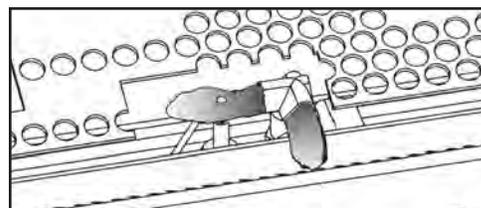

Figure 8: Pilot Flame.
Periodically do a visual check of the pilot flames. One flame should encompass the ignitor and thermocouple and the other should burn over the burner ports (see Figure 8). Also check that the burner is operating correctly, refer to Figure 77.
12. Light the pilot and check for proper flames (see Figure 8). Light the burner in both the "HI" and "LO" positions to verify proper burner ignition and operation and proper flame appearance. The amount of air to the venturi may need to be adjusted using the rod under the firebox. Pull the rod forward for more air or push it in for less air (see Figure 7). Also refer to Figure 77 for a flame appearance picture.